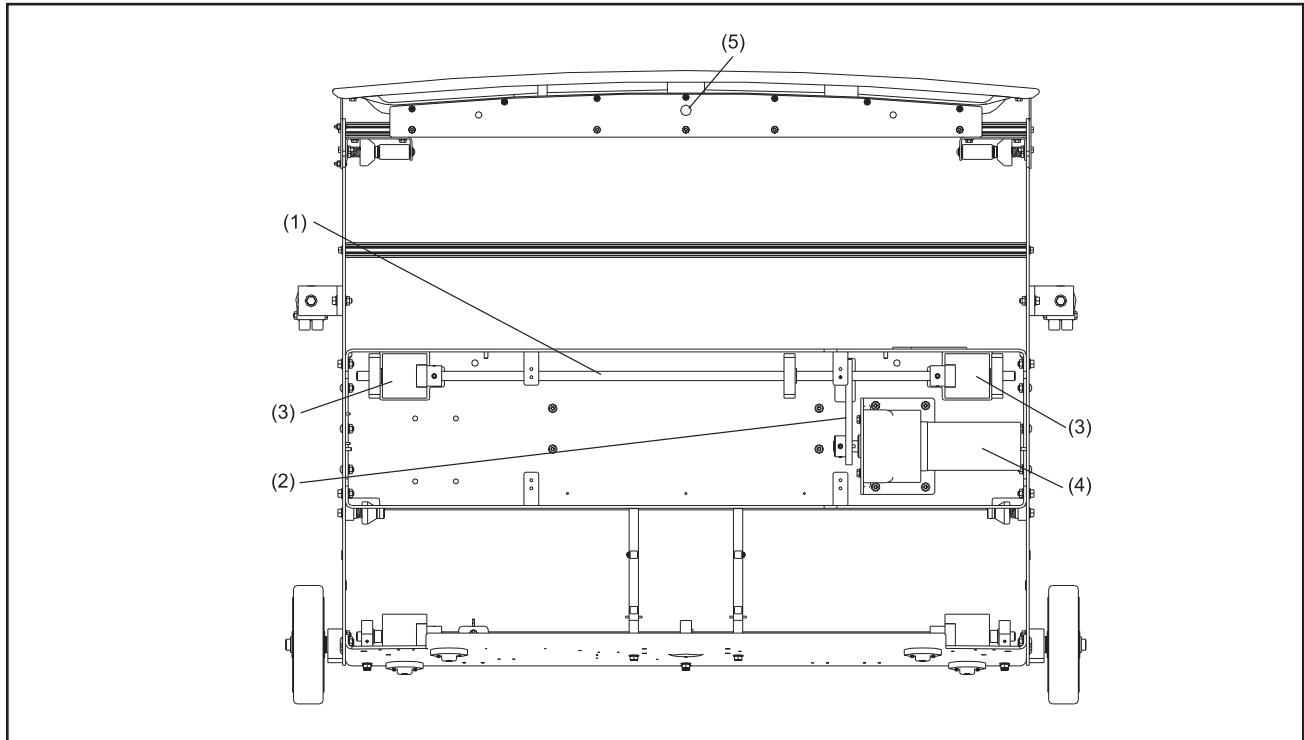

Figure 6-6. Traction Drive System
1. The machine travels up and down the lane by means of a traction drive motor connected through a chain to two drive wheels. Refer to Figure 6-6.